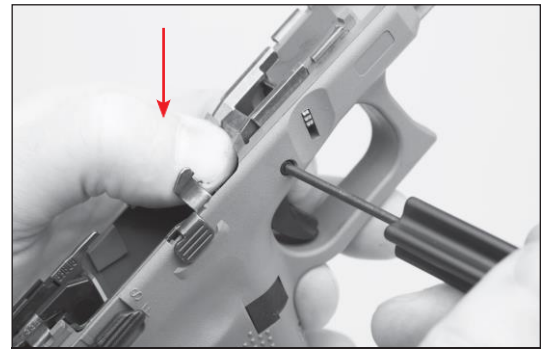

Fig. 57
- Push down on the inside of the lever near the trigger pin to allow enough clearance to push the trigger pin out of the frame from either side by using the pin punch, since the trigger pin has two grooves in which the ambidextrous slide stop lever engages. (Fig. 57/58)